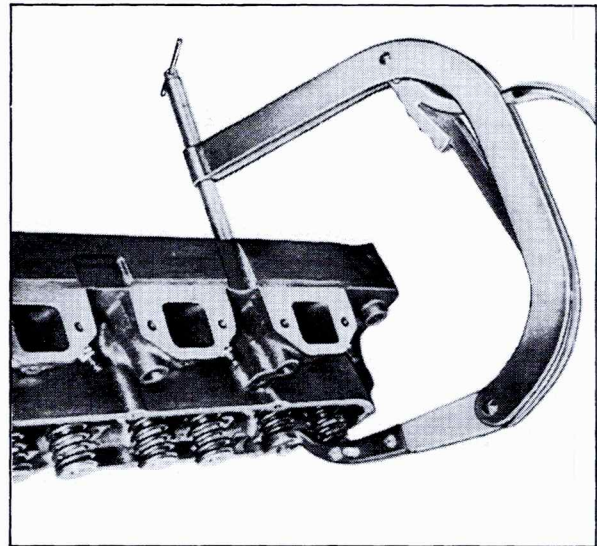

Fig. 6-116 Removing Valve
3. Position valve spring compressor over valve, Fig. 6-116 and compress valve spring.
3. Engage valve and retainer with valve spring compressor, Fig. 6-116 and compress valve spring.